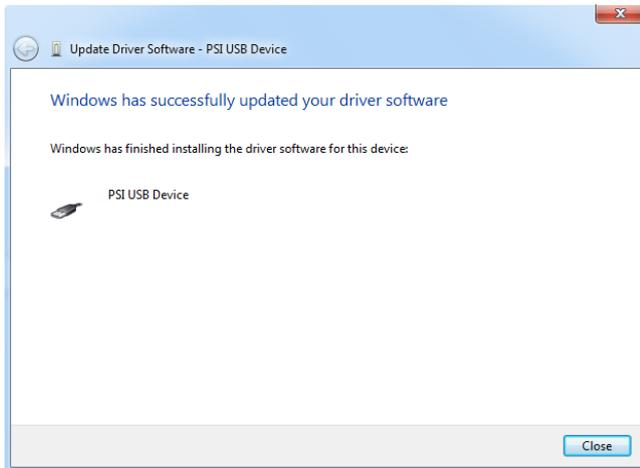

Fig. 17 Complete installation.
- Installation of the driver is now complete (Fig. 17)